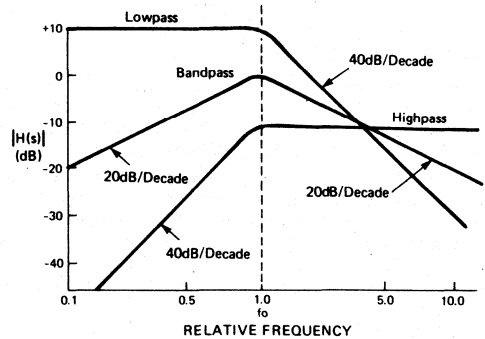

Figure 3. Relative Gains of Simultaneous Outputs, Q=1
In the simplified tuning procedure which follows, the tuning is accomplished by independently setting the natural frequency and Q of the filter. This is done most simply by assuming unity gain for the output of the desired filter function. Unity gain means a gain of one (±) at dc for lowpass, at center frequency for bandpass, and at high frequency (f > f₀) for highpass. Unity gain does not apply to all outputs simultaneously but only to the chosen output based on the component values given in the tables. Figure 3 shows the relative gains of the three simultaneous outputs assuming the bandpass gain is set to unity. Note that lowpass gain is always 10 dB higher than bandpass gain and highpass gain is always 10 dB lower than bandpass gain.
1. Typical connections are shown in Figure 3. Do not connect unused pins to any points. The external synchronization pin (Pin 1) is left open normally.
TYPICAL CONNECTIONS (Fig. 3)